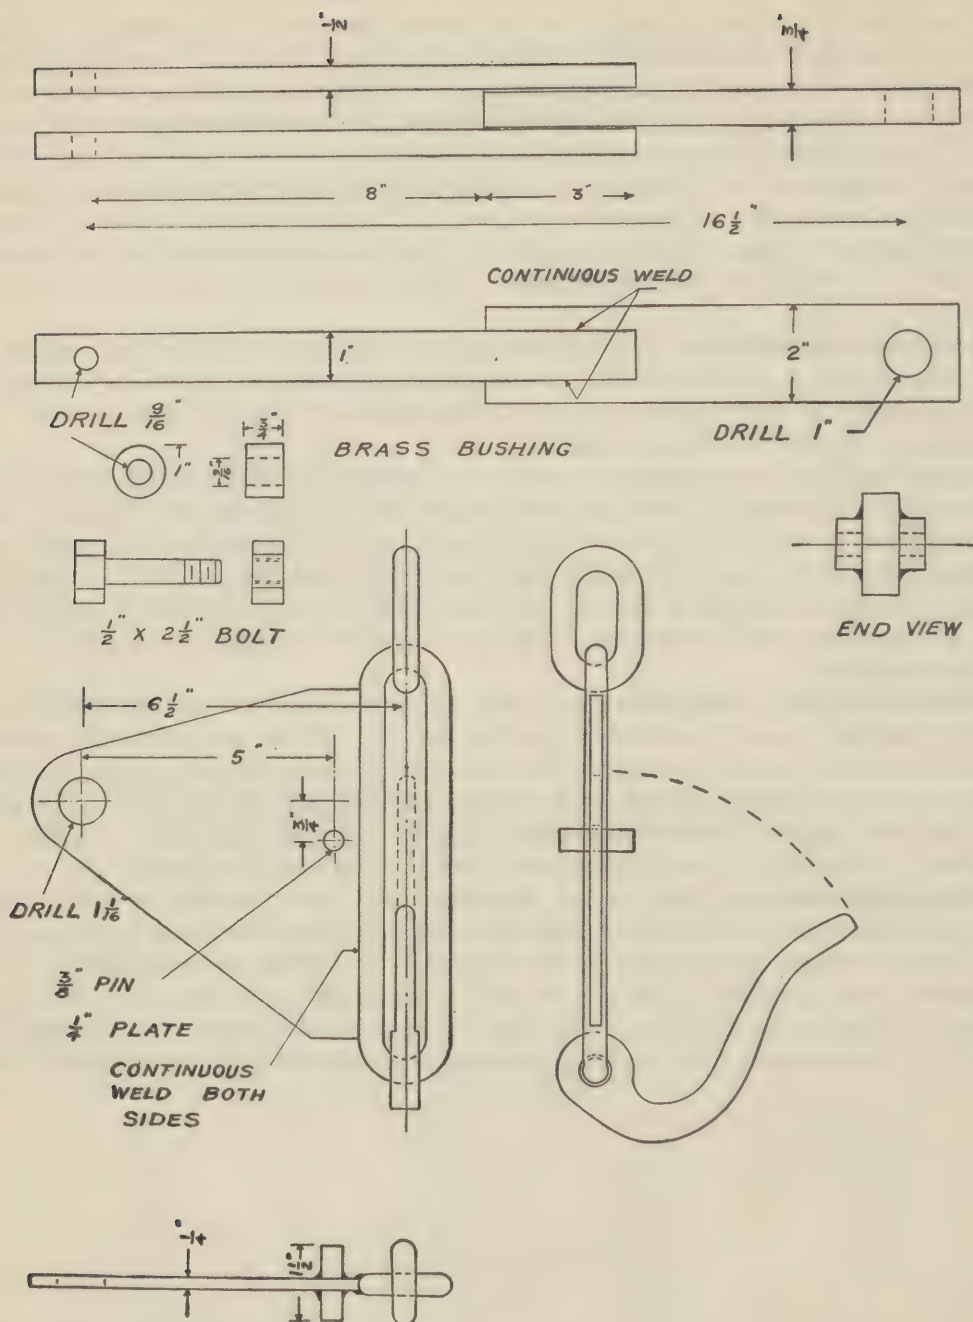

FIGURE 11.—Pelican hook.
**Pelican hook.**—In figures 11 and 12 there is shown a type of pelican hook which is suitable for quick release arrangement by pulling a light line rigged to the bridge or to the after end of the boat deck. This type hook is actually in service and has been found safe and suitable. It may be manufactured by anyone, as Mr. Simonds, the inventor, is desirous of giving it to the country without exercising any patent rights which he might obtain. Releasing arrangements which necessitate a man actually going to a point directly under the raft and releasing a pelican hook or cutting a line have been found unsuitable for wartime conditions. Releasing arrangements should be simple and foolproof.